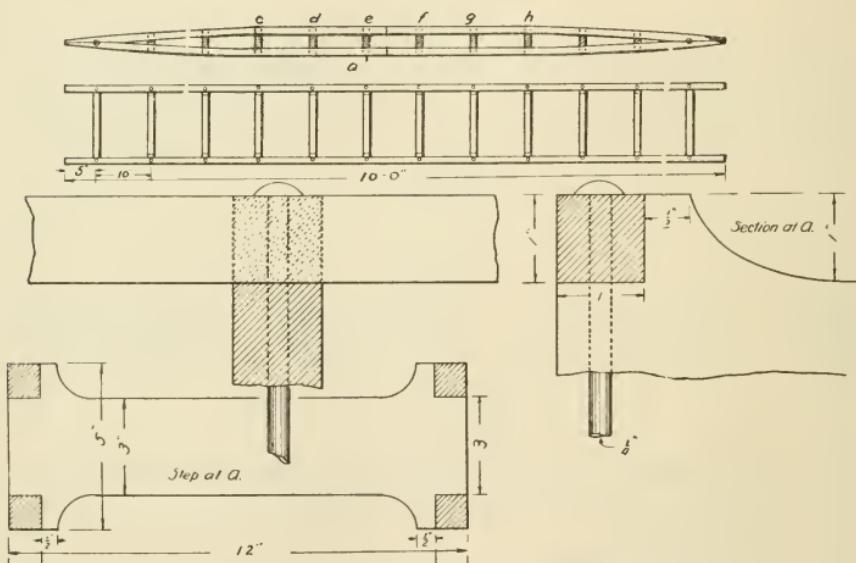

FIG. 76.—WORKING DRAWINGS OF TRUSSED LADDER.
2. Squaring up steps and cutting notches.—The steps are all squared up to the same size and planed smooth. After the ladder is assembled temporarily, some of the steps near the end will be found extending out beyond the strips. Cut six steps as shown in Fig. 76, with the